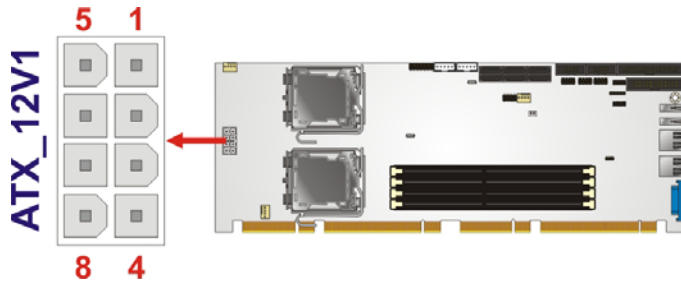

Figure 4-5: CPU 12V Power Connector
- Step 9:** Connect the 12 V power to the board. Connect the 12 V power from the power supply to the CPU power connector (**Figure 4-5**).